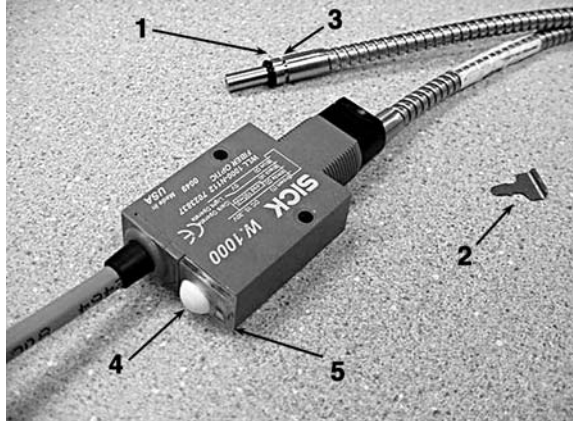

Figure 9
2. Remove the protective caps from fiber optic cable ends and slide the provided o-rings (1, Figure 9) over the ends up to the shoulder. Insert the fiber optic cable ends into the sensor body and lock them in place by sliding the key (2, Figure 9) into the slot and engaging the cables' grooves (3, Figure 9). Ensure that the key is locked in position.
5. Power the laser on to “teach” the sensor. Place the product in front of the sensor in its normal position and press and hold the white button (4, Figure 9) on the back of the sensor until the indicator light (5, Figure 9) turns on. This setting will provide a gain sensitivity of three times the required signal input. If there is false triggering from excess background interference, place the product in front of the sensor in its normal position and press and hold the white button until the indicator light begins to blink. This setting will reduce the excess gain to the minimum value.